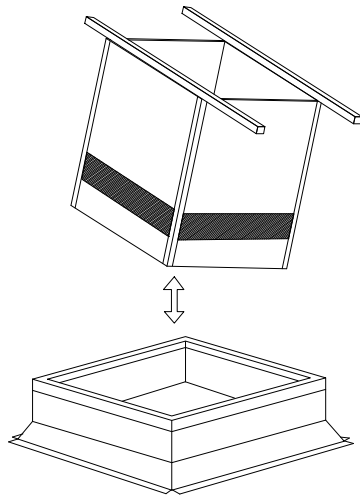

Fig. 7
4. Raise SkyLume up. (2 people recommended) so prismatic lens is pointed downward. Carefully lower SkyLume through SkyLume curb. (Fig. 7)